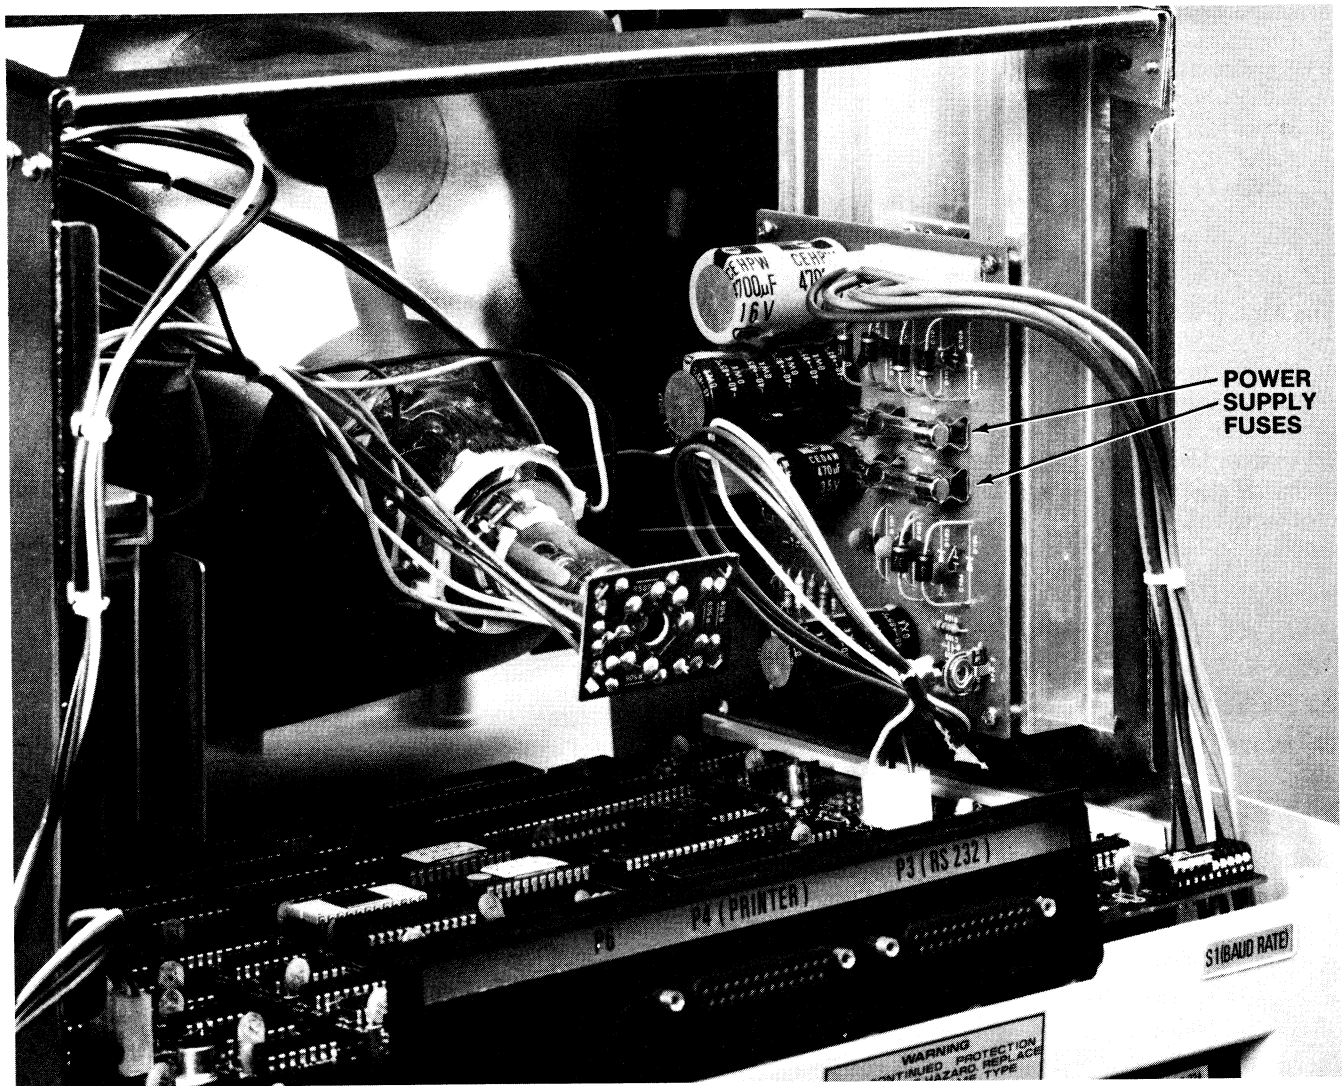

Figure 6-2 Power Supply Fuses
4. Remove the blown fuse from its fuse clip (see Figure 6-2).